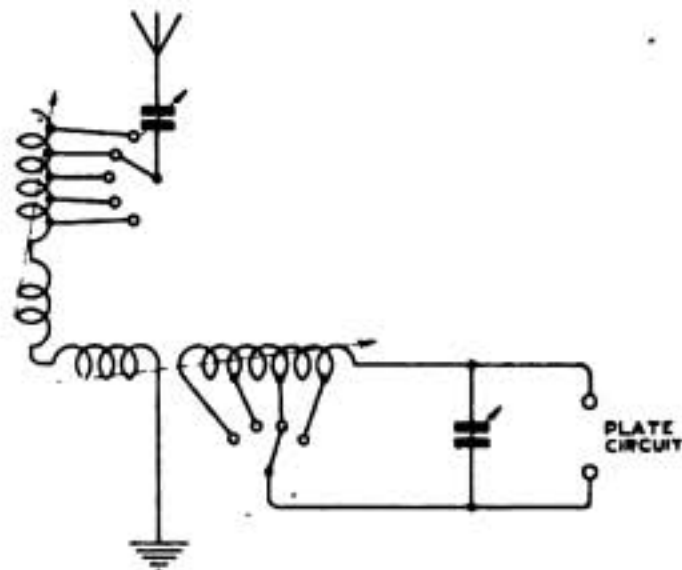

Fig. 1.
**Plate coil:** a single layer of No. 30 D.C.C. wire upon a 4 × 8 inch tube, with six equal tapings taken to studs of a switch. A small variable condenser should be placed across this coil for the purpose of tuning the plate circuit more or less exactly to the received wavelength, since somewhat better results are obtained in this way. Fig. 1 shows how these components may best be arranged in circuit so as to minimise capacity effects from the hand.